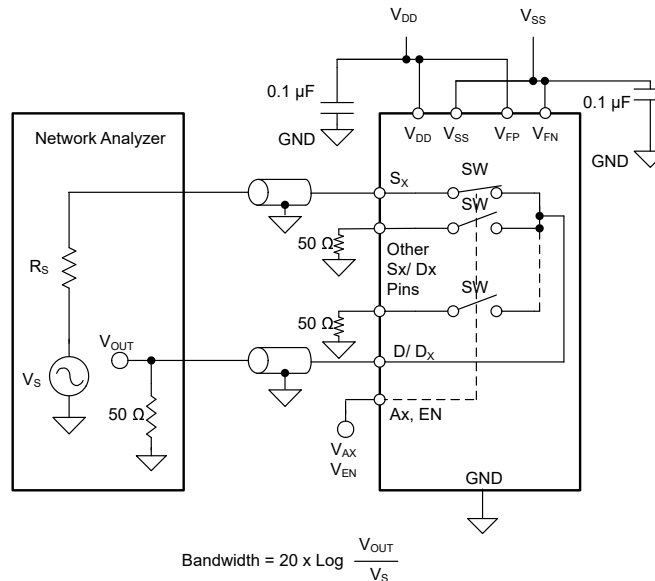

Figure 8-17. Bandwidth Measurement Setup
Bandwidth (BW) is defined as the range of frequencies that are attenuated by < 3 dB when the input is applied to the source pin (Sx) of an on-channel, and the output is measured at the drain pin (D or Dx) of the TMUX7348F and TMUX7349F. Figure 8-17 shows the setup used to measure bandwidth of the switch.